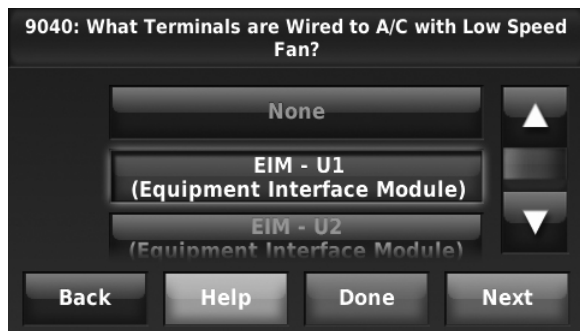

Fig. 134.
4. Select the terminals wired to the A/C with Low Speed Fan or Hot Gas Bypass. See Fig. 134.